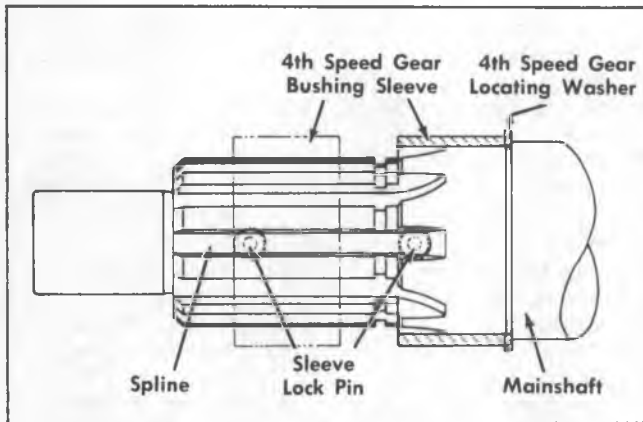

Fig. 11P--Sleeve Lock Properly Installed
**NOTE:** When assembling 4th speed gear bushing sleeve and lock pin assembly in Step 8 following, make certain sleeve lock pin is centered in a spline of mainshaft before pressing sleeve into place. Failure to do this may shear head of lock pin and cause bushing seizure (fig. 11P).
8. With lock pin in place in 4th speed gear bushing sleeve, install bushing sleeve on mainshaft with lock pin toward pilot or front end of mainshaft (43). It may be necessary to use a suitable sleeve and hammer to properly install sleeve.